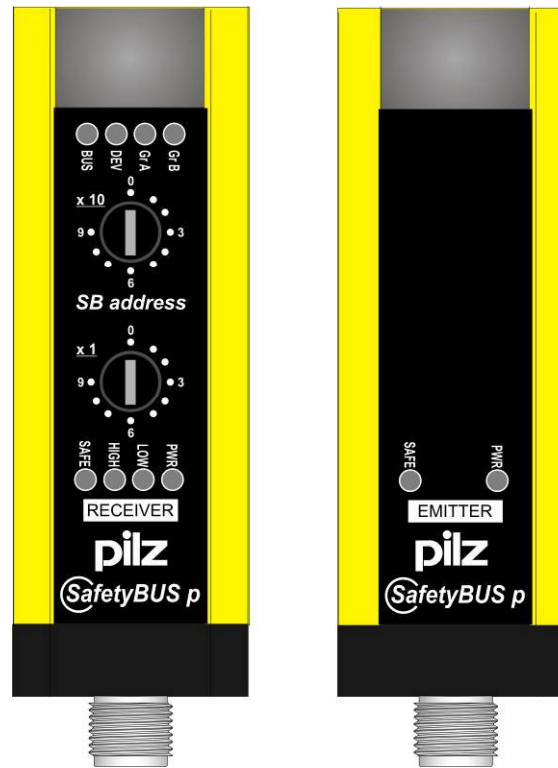

Fig. 22
4 LEDs on the receiver (RX) and 2 LEDs on the emitter (TX) provide the user with information about the operating status of the PSEN opSB-4 safety light curtain (Fig. 22).